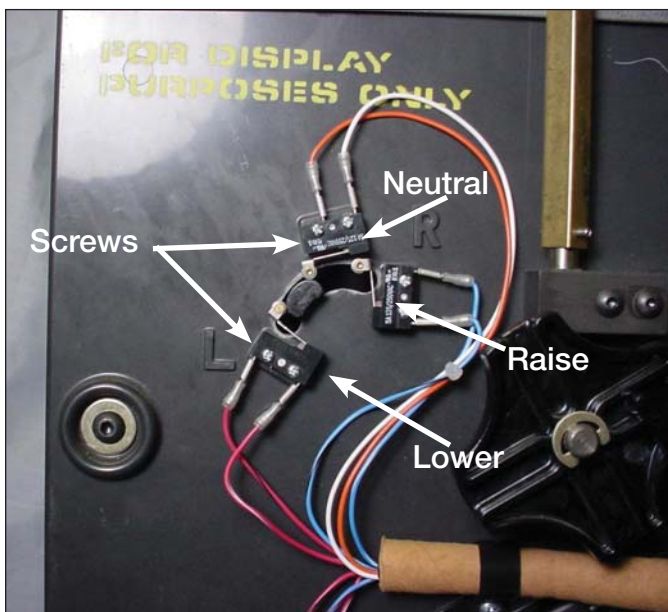

Figure 9.
- After removing the tap changer from the regulator assembly, use a Phillips head one point screwdriver to loosen and remove the six screws mounting the Reversing Lower, Raise and Neutral switch located in the upper left corner of the tap changer assembly. See Figure 9.